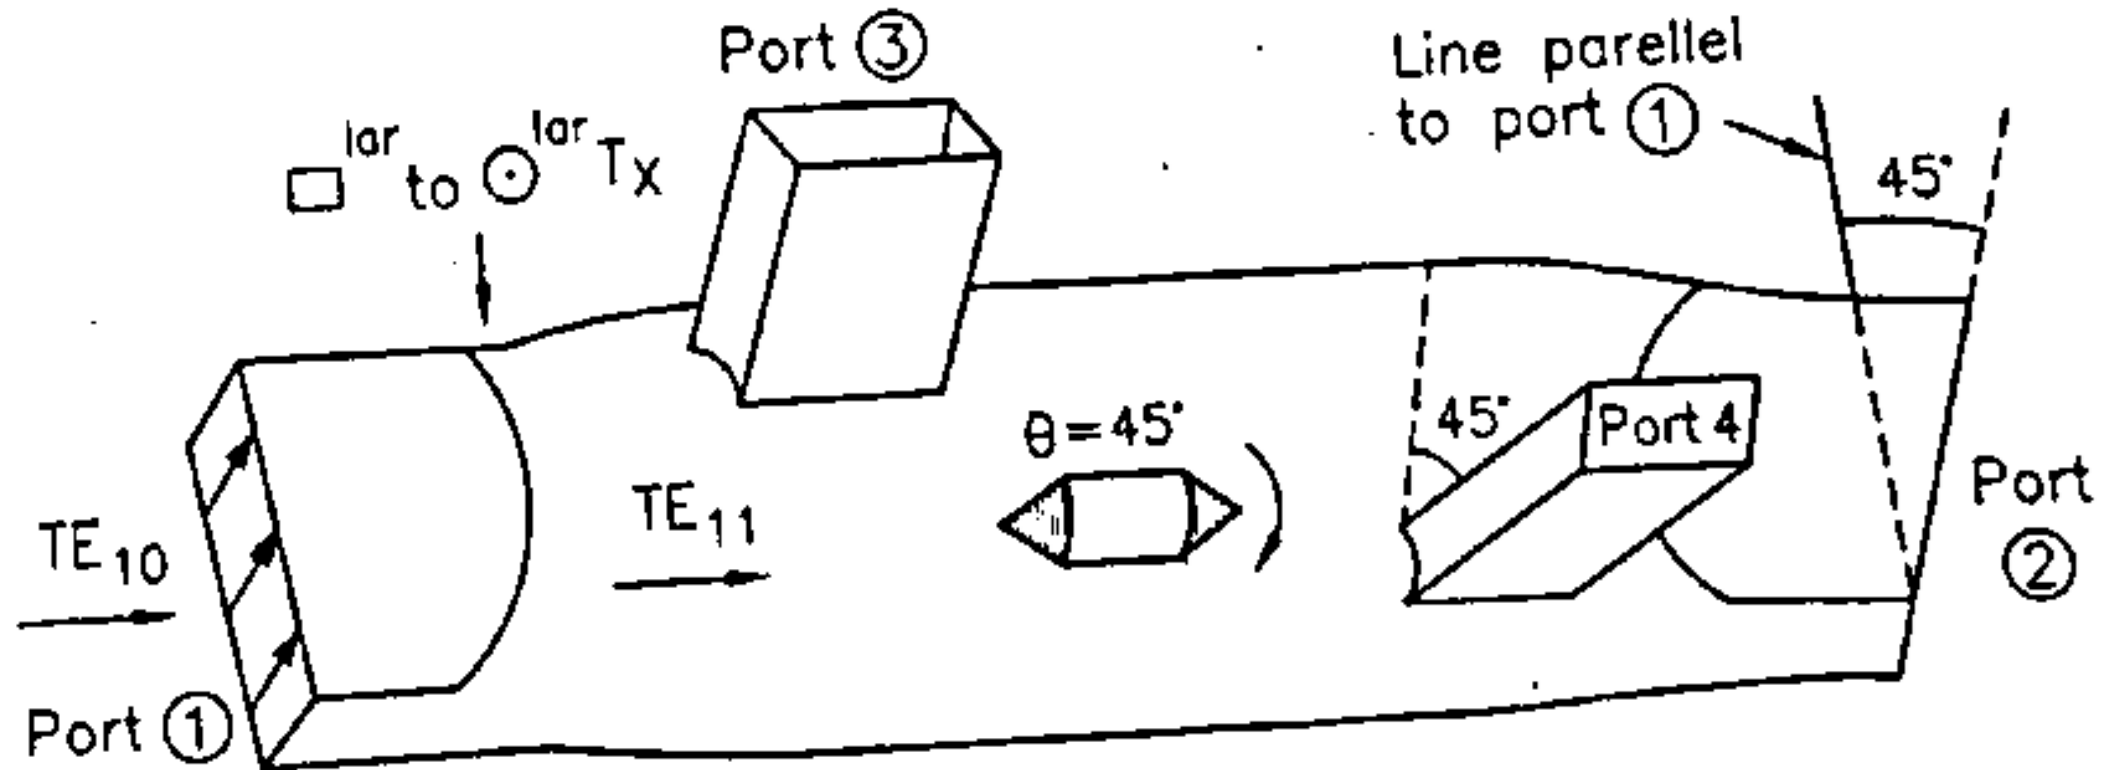

Fig. 6.37 Four port circulator.
Construction : A four port Faraday rotation circulator is shown in Fig. 6.37. The power entering port ① is TE_{10} mode and is converted to TE_{11} mode because of gradual rectangular to circular transition. This power passes port ③ unaffected since the electric field is not significantly cut and is rotated through 45° due to the ferrite, passes port ④ unaffected (for the same reason as it passes port ③) and finally emerges out of port ②. Power from port ② will have plane of polarization already tilted by 45° with respect to port ①. This power passes port ④ unaffected because again the electric field is not significantly cut. This wave gets rotated by another 45° due to ferrite rod in the clockwise direction. This power whose plane of polarization is tilted through 90° finds port ③ suitably aligned and emerges out of it. Similarly port ③ is coupled only to port ④ and port ④ to port ①.